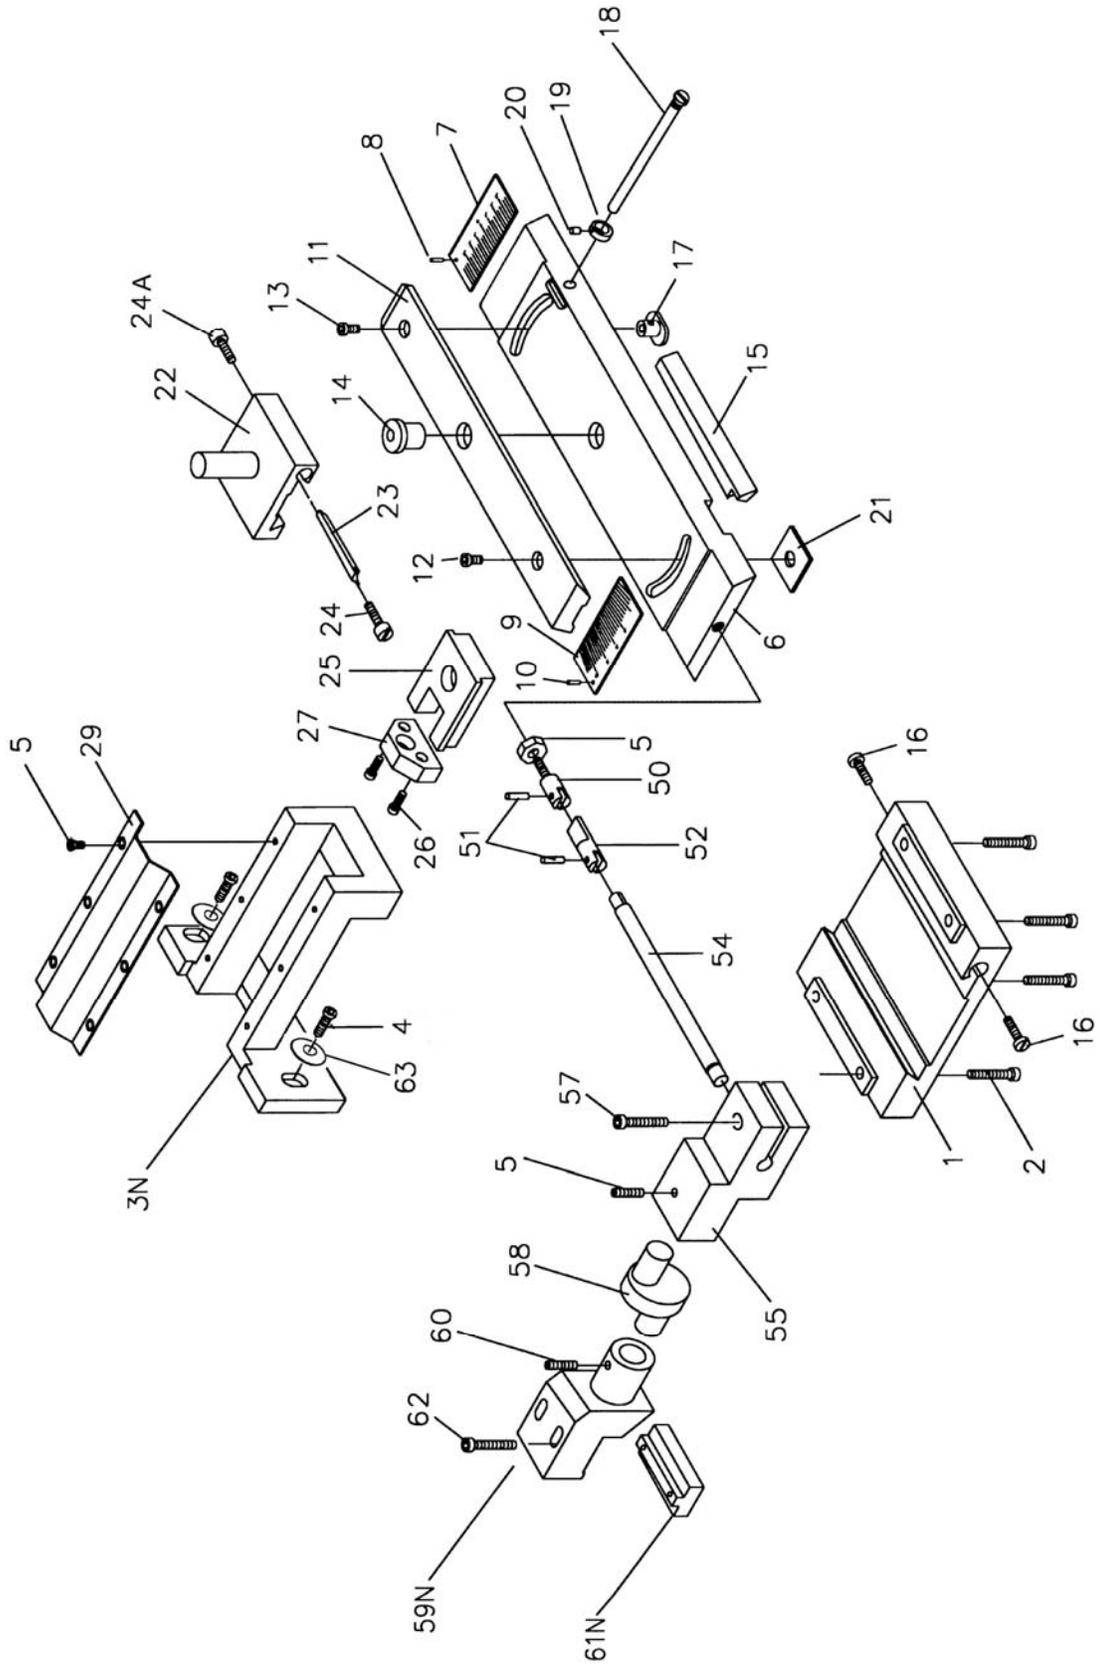

*Figure 7*
28. Using a dial indicator mounted to the carriage indicate along the tool post, while moving the carriage, (Figure 7). You are checking to see that the taper slide is parallel to the movement of the carriage.
**Note:** You will need to loosen hex socket cap screws (12 & 13). This will allow you to turn the adjusting screw (18).